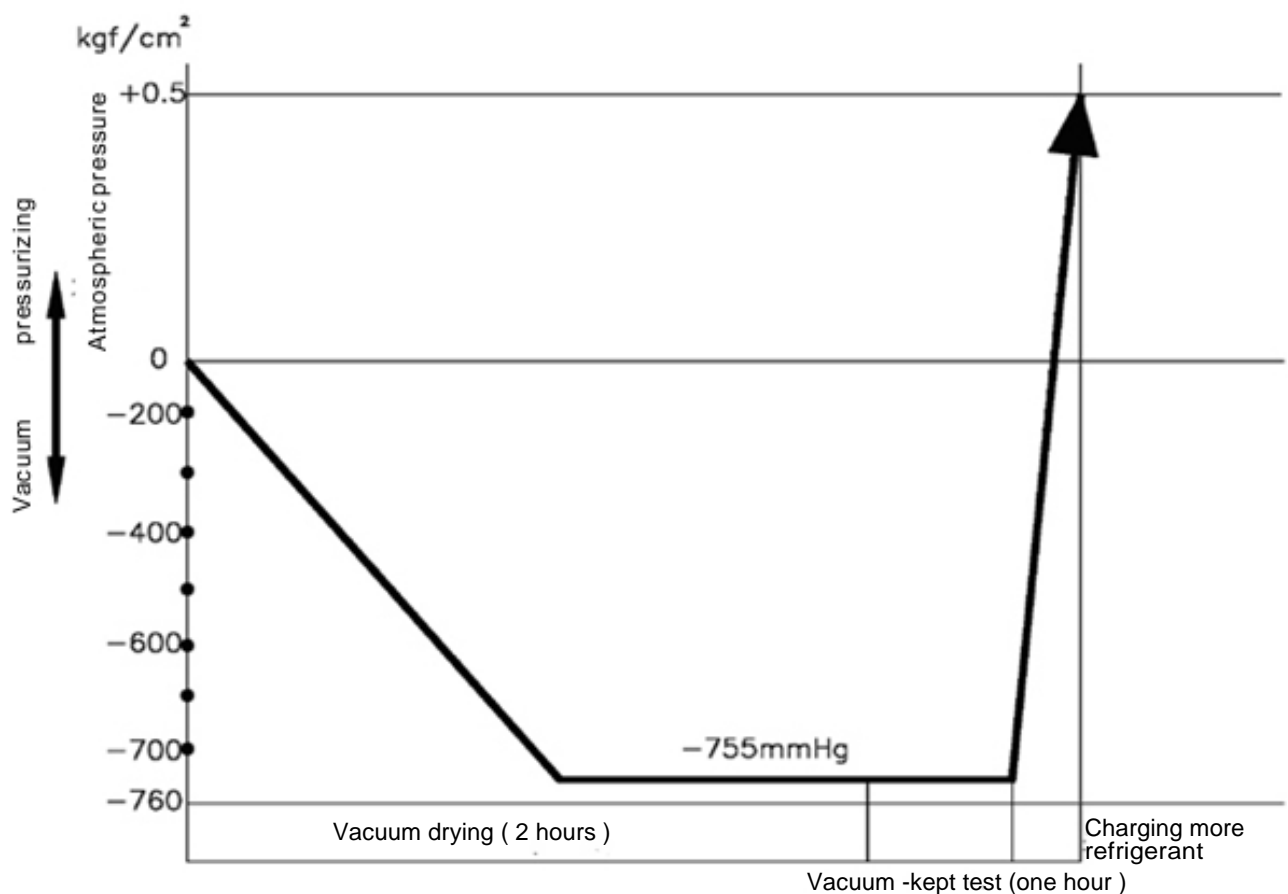

Fig 6 7 : Common Vacuum Drying sketch map
- Common vacuum drying sketch map is referred to Fig 6 7 :